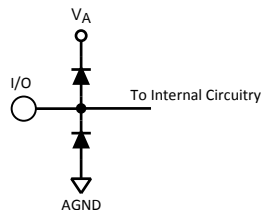

Figure 2.
- The inputs are protected as shown below. Input voltage magnitudes above V_A or below GND will not damage this device, provided current is limited per Note 4 of the Absolute Maximum Ratings Table. However, errors in the A/D conversion can occur if the input goes above V_A or below GND by more than 100 mV. As an example, if V_A is +3.3V, the full-scale input voltage must be $\leq +3.4V$ to ensure accurate conversions. See Figure 2.